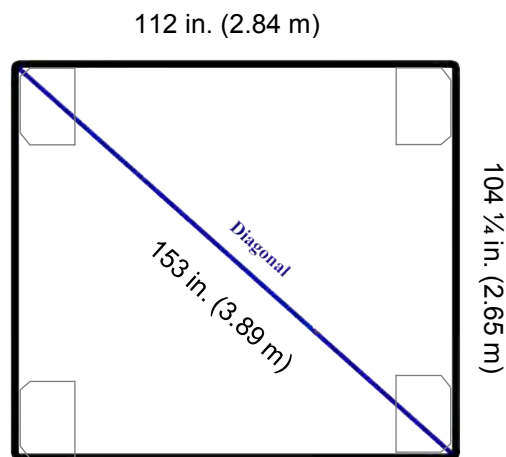

Figure 33
- The foundation must be levelled with a maximum tolerance of 1 in. (2.5 cm) over a 153 in. (3.89 m) diagonal section and 112 in. (2.84 m) by 104 1/4 in. (2.65 m) rectangle (Figure 33). The annual variation in levelness for the same diagonal section cannot exceed 1/4 in. (6 mm).